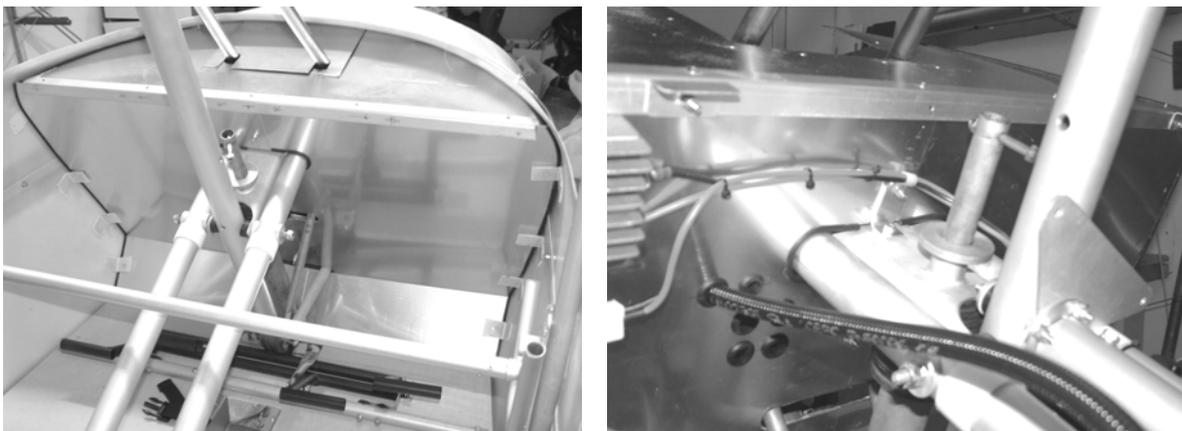

Figure 200; UKMOD firewall, brace to engine mount visible in right-hand picture.
- r) The firewall support bracket (UKMOD) should be used to brace the firewall to the engine mount immediately in front of the top of the nose-leg, Figure 200.
- s) The firewall on UK spec aircraft continues upwards and forwards to meet the upper cowling, Figure 200.